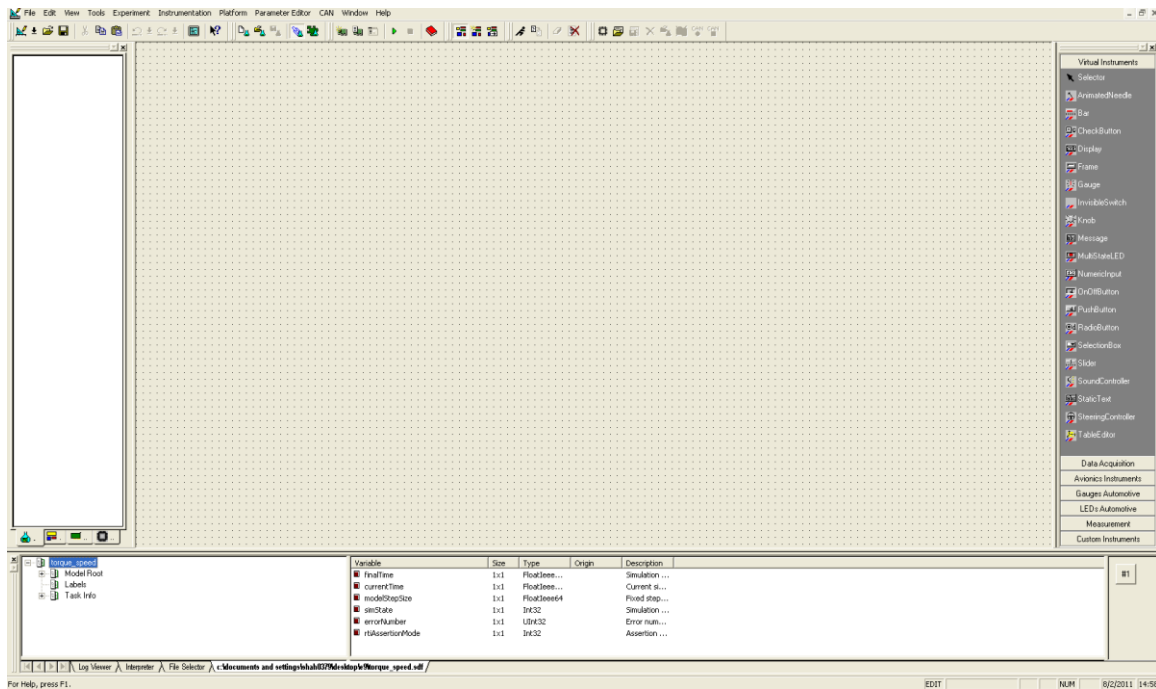

Figure 2.7: New Layout Window for Instrumentation and Control
- After opening the variable file, notice that a new tab in the lower window called **Variable Manager** appears below the layout (Fig 2.7). The variables of the real-time Simulink model file are under the tree **Model Root**. Expand **Model Root**, observe the variables and relate them with the real-time Simulink model.